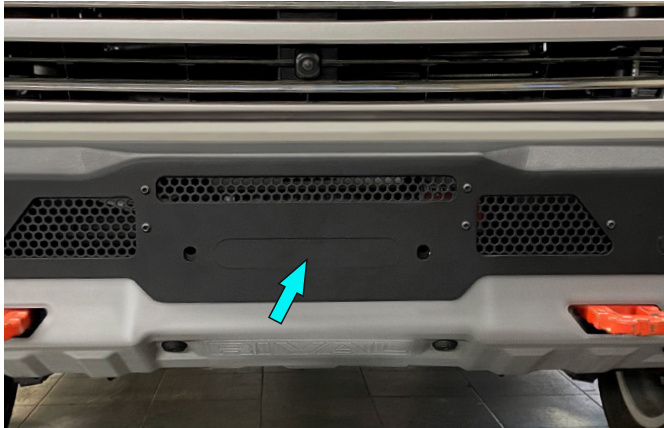

Fig.37
37. Hummer our the fairlead hole shown in fig 37, in case if you will install winch.